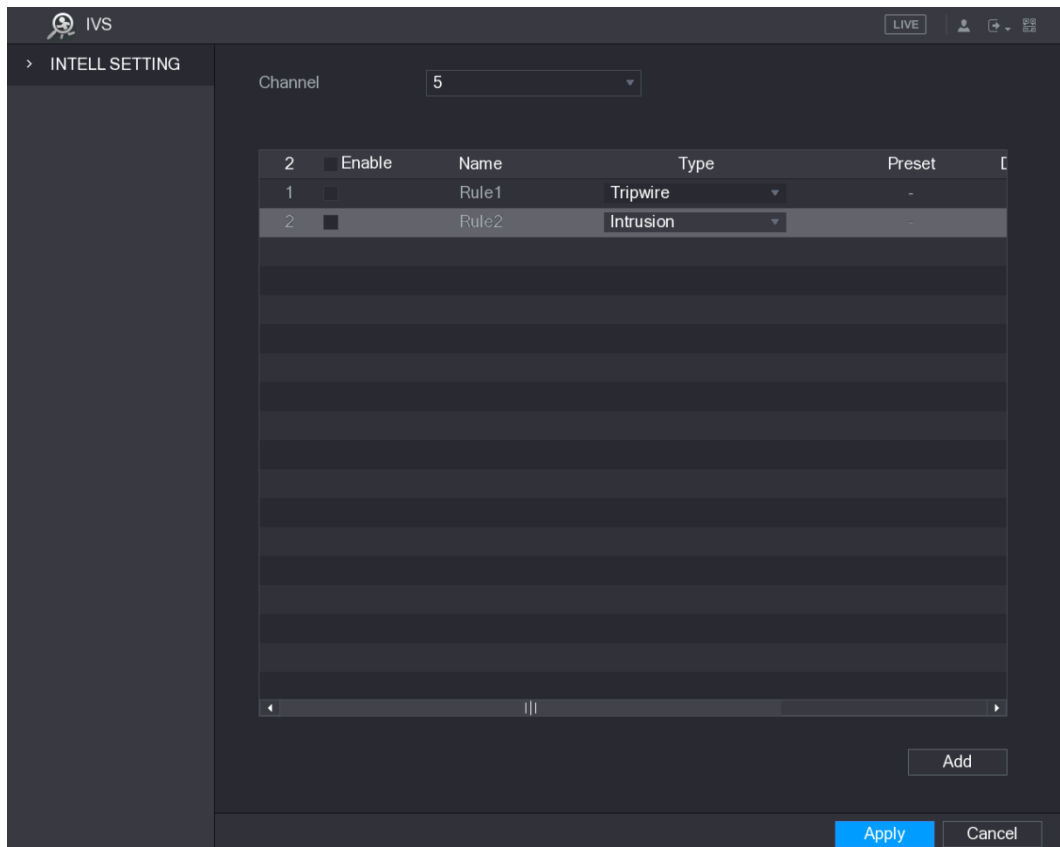

Figure 5-121
Step 1 On the rule line that you added, in the **Type** list, select **Intrusion**. See Figure 5-121.